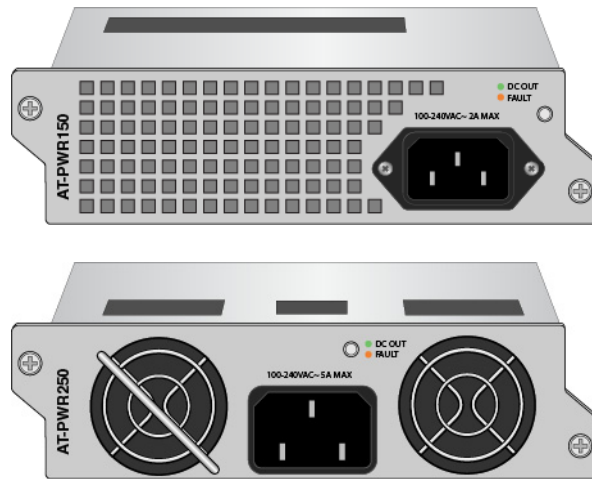

Figure 5. Non-PoE AC Power Supplies
- ❑ The PWR150, PWR150R, and PWR250 power supplies have AC power connectors as shown in Figure 5.